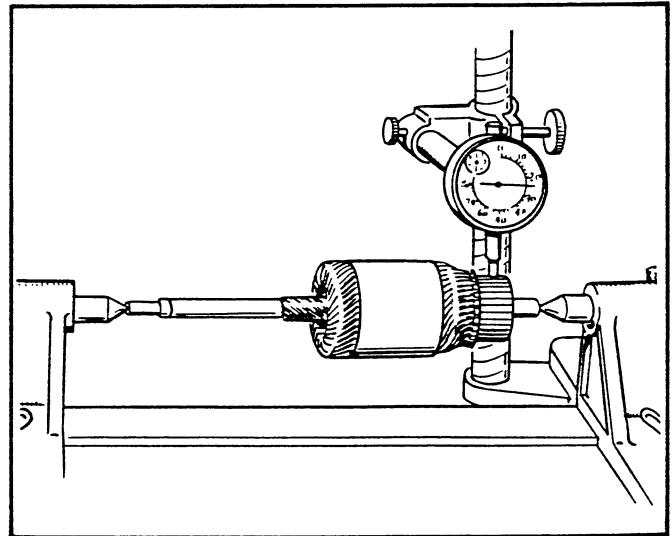

FIGURE 40. CHECKING COMMUTATOR RUNOUT
4. **Testing Commutator Runout.** Place armature in a test bench and check runout with a dial indicator per Figure 40. When commutator runout exceeds .004", commutator should be refaced.